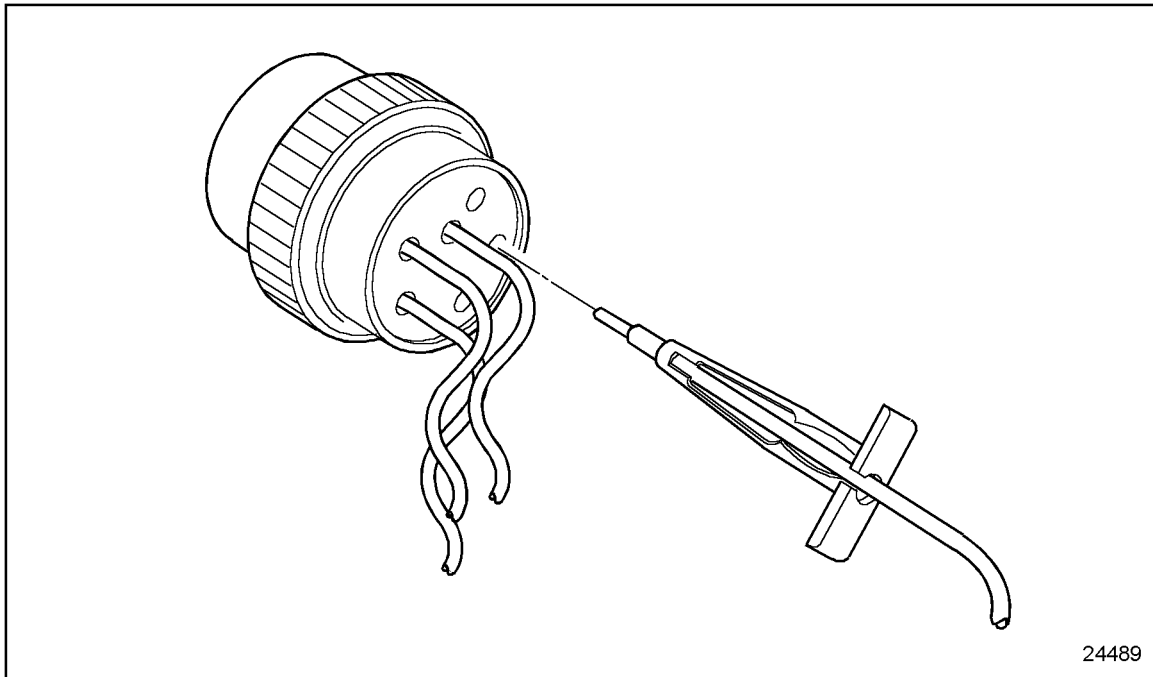

Figure 8-18 **Removal Tool Insertion**
2. Slide the tool along the cable into the insert cavity until it engages and resistance is felt. Do not twist or insert tool at an angle. See Figure 8-18.